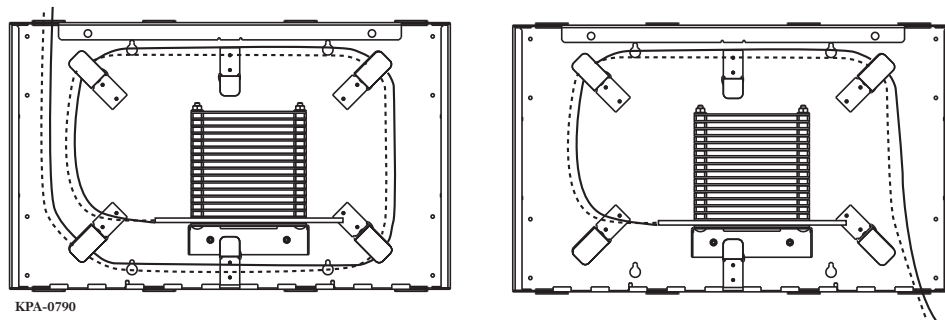

Figure 11 — Route Cable
Cable routing is dependent upon the location of cable entry into the housing (Figure 11). Choose the routing configuration that best fits your application. If desired, cut small sections of spiral wrap and place around the buffer tubes to keep them organized.
- Step 2:** Route incoming buffer tubes (shown with dashed lines in Figure 11) around the routing guides.
- Step 3:** Route the drop fibers (shown with solid lines in Figure 11) from the splice tray around the routing guides.